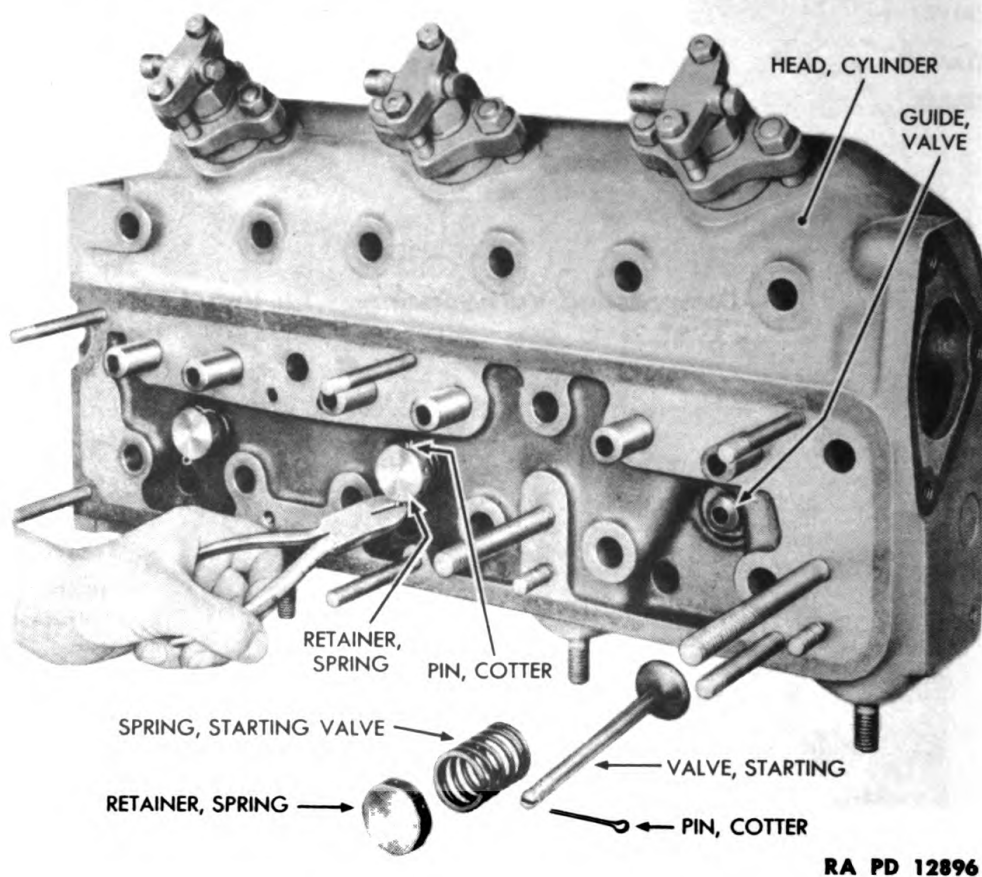

Figure 72—Starting Valve Removal
- (2) REMOVE STARTING VALVES (fig. 72).